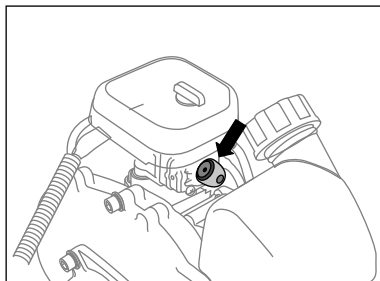

fig. 10
- Press the rubber cap of the manual fuel pump five to seven times to fill the carburetor with the fuel mixture (fig. 10). At the same time, the pumped fuel mixture must be viewed through the rubber cap of the manual fuel pump knob. If the fuel mixture does not fill the cap, press the manual fuel pump knob several times.